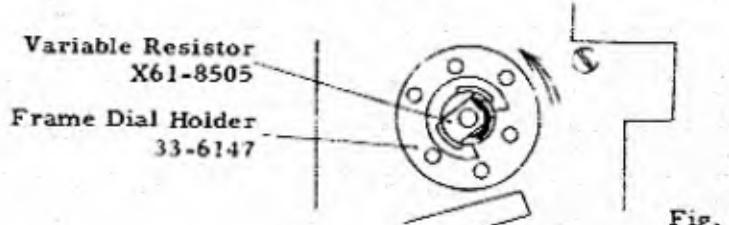

Fig. 27
- 1) Turn Variable Resistor X61-8505 fully counter-clockwise. See Fig. 27.